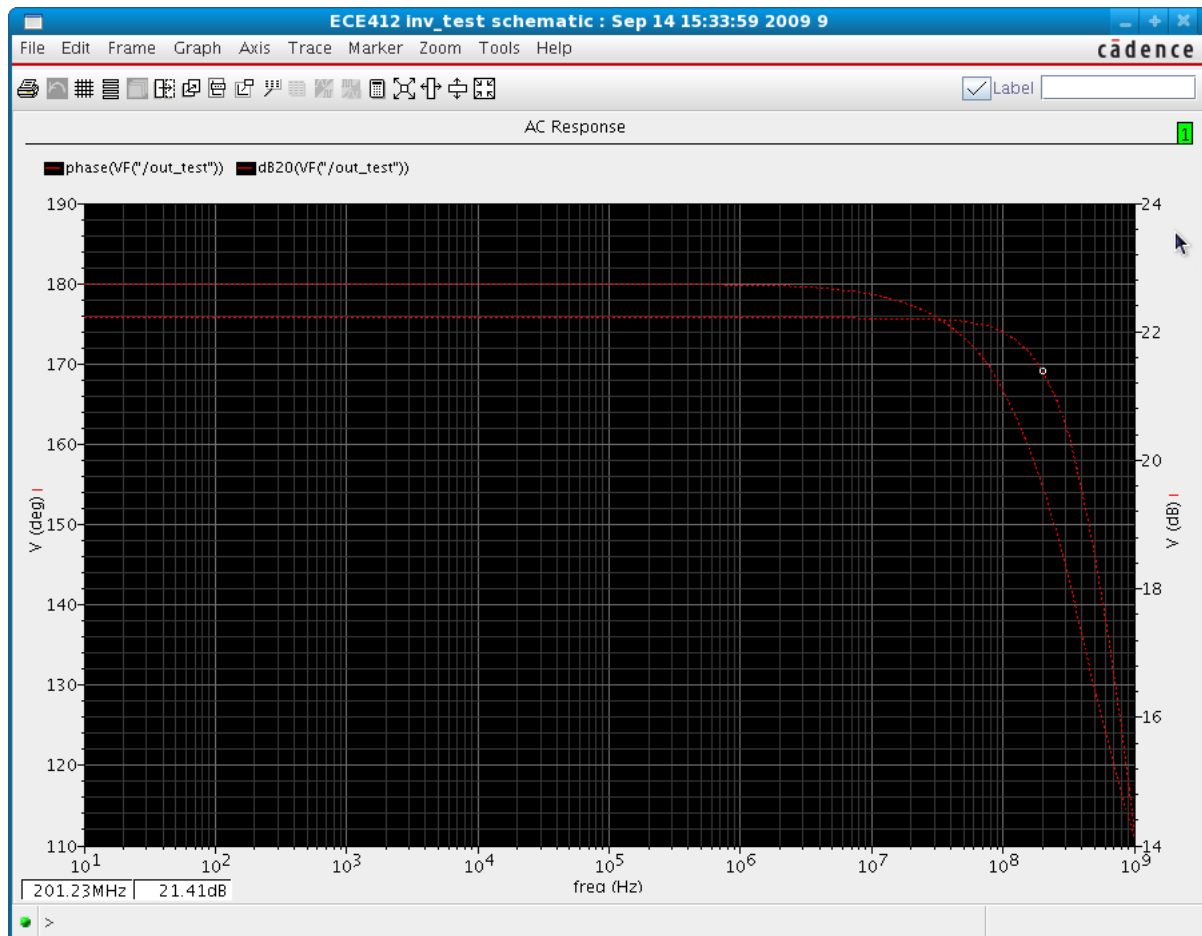

Figure 23: 20dB Magnitude and Phase
6. To plot the 20dB Magnitude and Phase. Go to **adexl** tab then **Results** and right click on “/out_test” **Direct Plot**⇒ **AC Magnitude Phase**. The graph is depicted in figure 23.